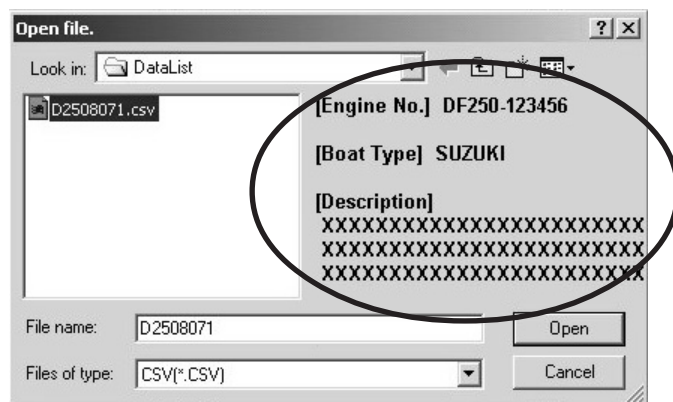

Fig.55-2
- Entering comments from the Engine No., Boat Type, and Description fields and selecting the file to be saved displays the information in the subwindow. (Fig.55-2)